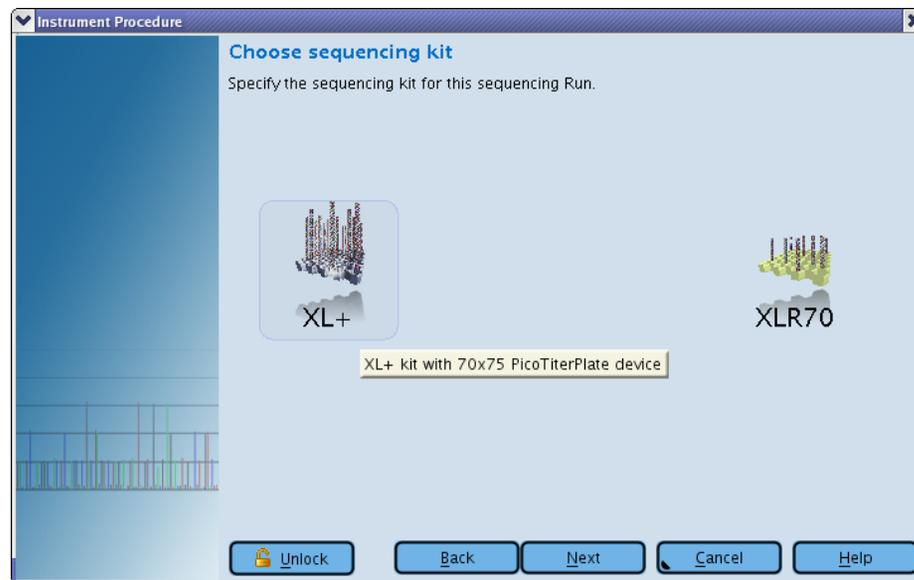

Figure 23: The Run Wizard's fourth window: Choose sequencing kit. Your selection will be highlighted.
- This opens the Run Wizard's fourth window: Choose sequencing kit (Figure 23).